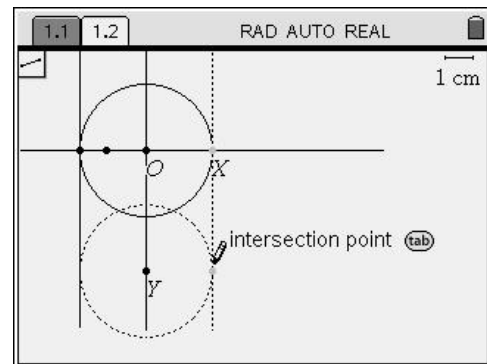

Figure 14
14. For the right side of the cylinder, move the cursor to point X as before and press enter . Then move the cursor to where the bottom circle and the right side intersect and the text reads, “intersection point”. (Figure 14) Press enter . Repeat for the left side of the cylinder. Then press esc to put the segment tool away.